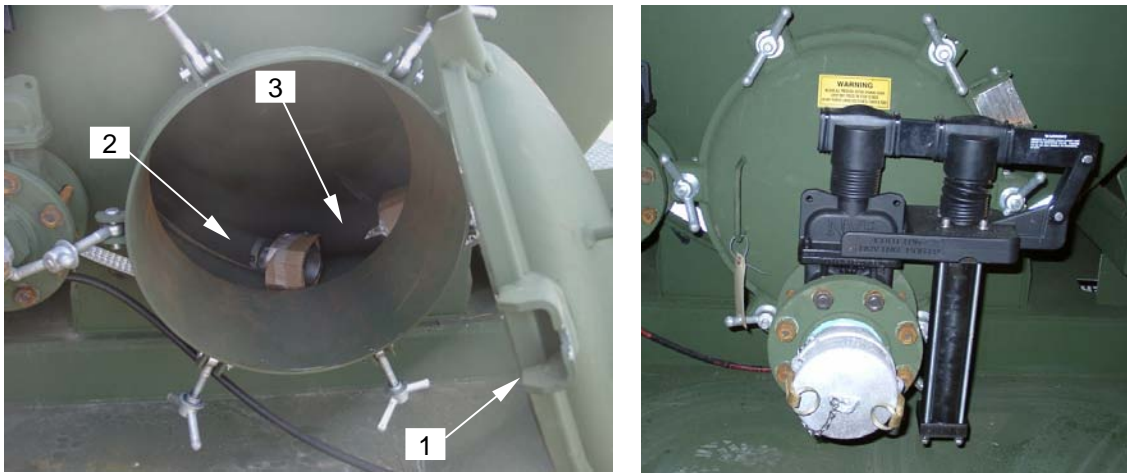

Figure 3. Manway
- Open the manway cover (**figure 3, item 1**) on the tank as described in WP 0022 00. Secure in place with safety chain.
- Remove two 2½-inch x 20-foot intake (**figure 3, item 2**), and two 4-inch x 10-foot drain hoses (**figure 3, item 3**) from inside the tank. Close manway cover as described in WP 0022 00.